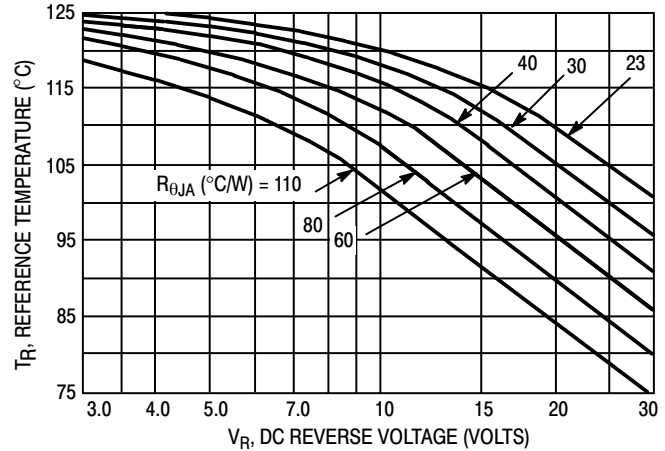

Figure 2. Maximum Reference Temperature
Step 2. Find  $T_R$  from Figure 2. Read  $T_R = 109^\circ\text{C}$